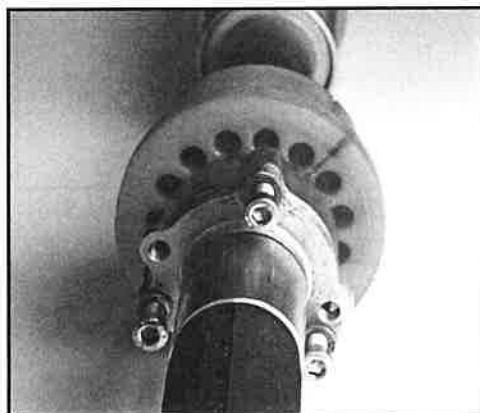

FIG. 57: REMOVE 3 SOCKET HEAD CAP SCREWS
4. Remove the whip hose by unscrewing the 3 socket head cap screws of the hose connection (see Fig. 57).